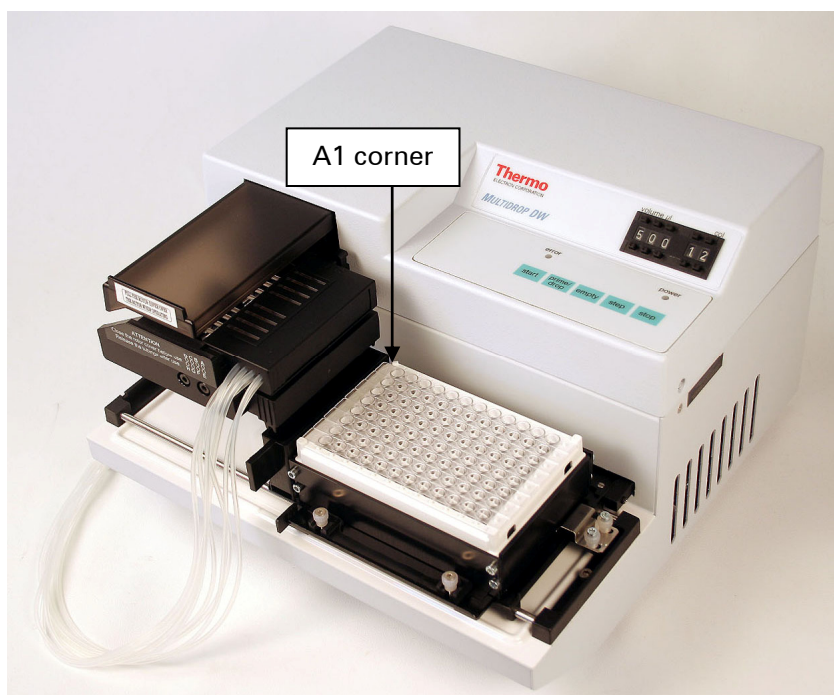

Fig. 6.11 96-well plate placed onto the plate adapter
- Then place the 96-well plate onto the plate adapter with the A1 corner of the plate located top left of the plate carrier (*Fig. 6.11*).